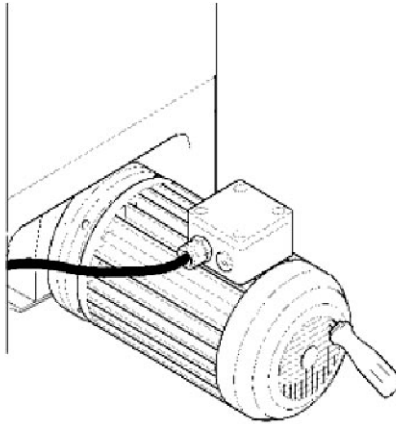

Fig. 5-22 Blocking the motor
1. See Figure 5-22. Block the motor rotation by inserting a screwdriver in to the inner fan assembly.